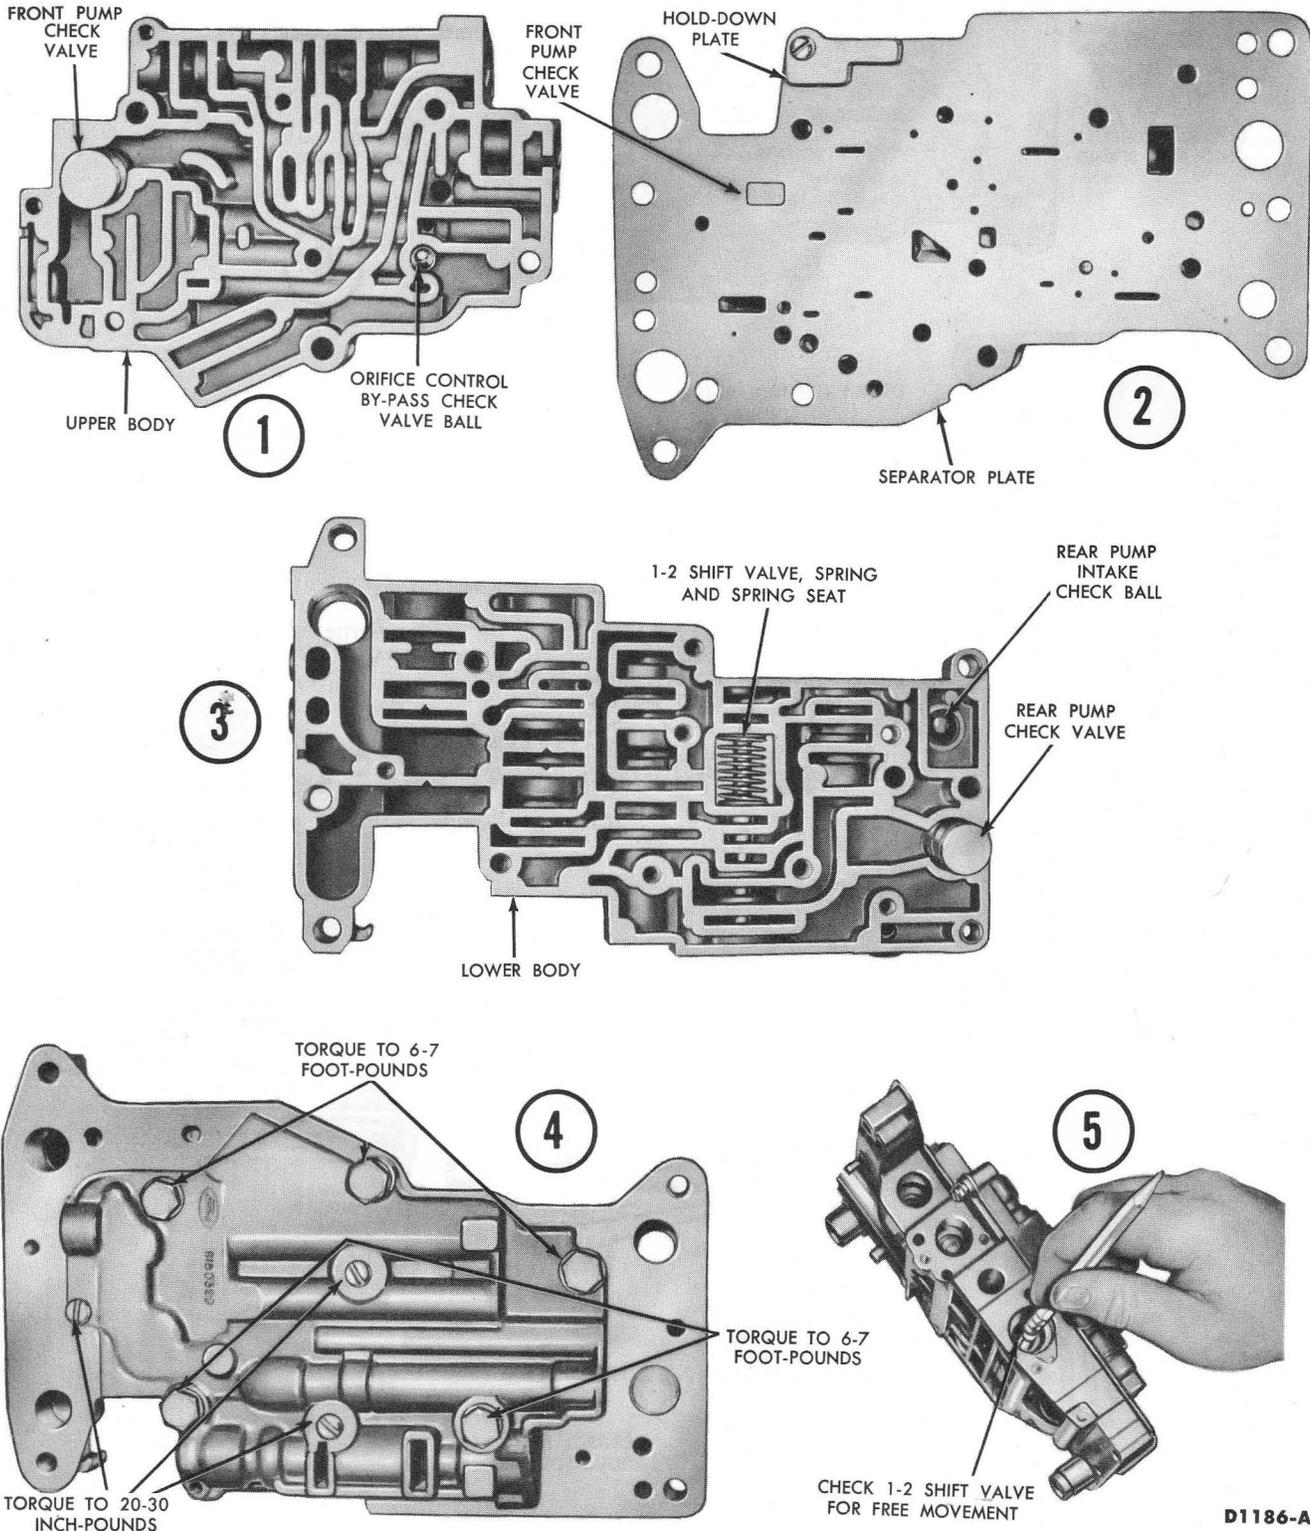

FIG. 15—Control Valve Body Assembly Procedure
The assembly procedure given below permits installing each valve, except the 1-2 valve, in its respective bore with the upper and lower bodies attached together at normal torque. The 1-2 valve must be installed before the bodies are bolted together. This valve can be checked for proper fit after the bodies are assembled as shown in Figs. 15 and 16. Refer to Table 1 for the proper spring application for the two control valve bodies that are used.
1. Place the orifice control valve by-pass check ball in the upper body (Fig. 15).
5. Place the upper control valve body and separator plate assembly on the lower body. Install the 5 bolts (¼-20) which attach the upper and lower control valve bodies. Install the 3 screws (10-24) which also attach the upper and lower control valve bodies. Torque the bolts and screws (Fig. 15).
6. With the upper and lower control valve bodies at normal assembled torque, check the 1-2 valve for free movement (Fig. 15). Check and adjust the bolt and screw torque as required, to obtain free movement on the 1-2 shift valve.